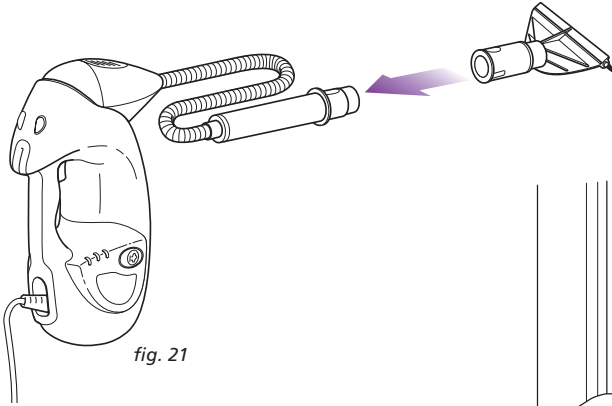

fig. 21
- 1 Attach the Window Squeegee by snapping into the handle of the Accessory Hose. (fig. 21)